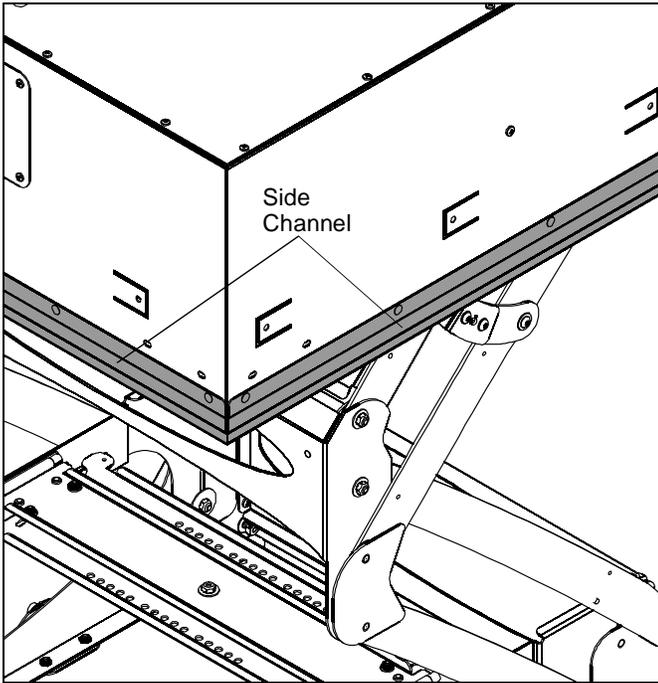

Figure 7
7. Insert the ceiling grid edge surrounding the SL236SP into the side channel of the SL236SP. (See Figure 7)